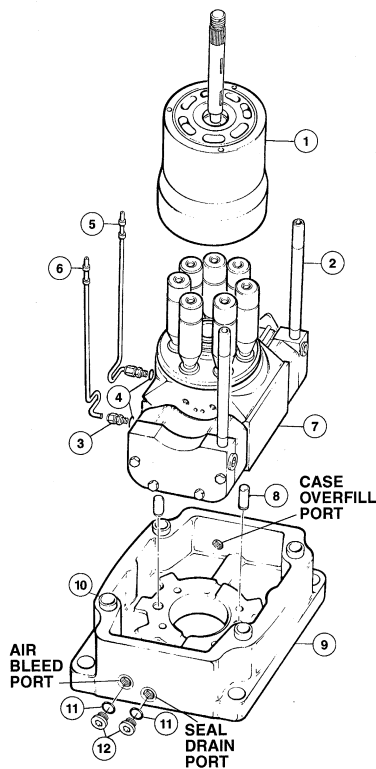

FIGURE 4
See figure 4: Position the cradle and cam assembly with the piston and shoe assembly attached with "T" marked on the cradle turned up.
PARTS LIST FOR FIGURE 4
Install gasket (3) over the four locating sleeves (item 10 on figure 4) in the mounting flange.
Position the housing assembly (4) over the barrel and auxiliary shaft assembly and carefully guide the override tubes and pressure feed tubes (items 2, 5, and 6 on figure 4) through the housing assembly (4).
Slide the port block assembly and port plate over the end of the auxiliary shaft. Be certain that tubes 2, 5 and 6 shown on figure 4 are engaged and that the port plate (4) is still on the pins (3).